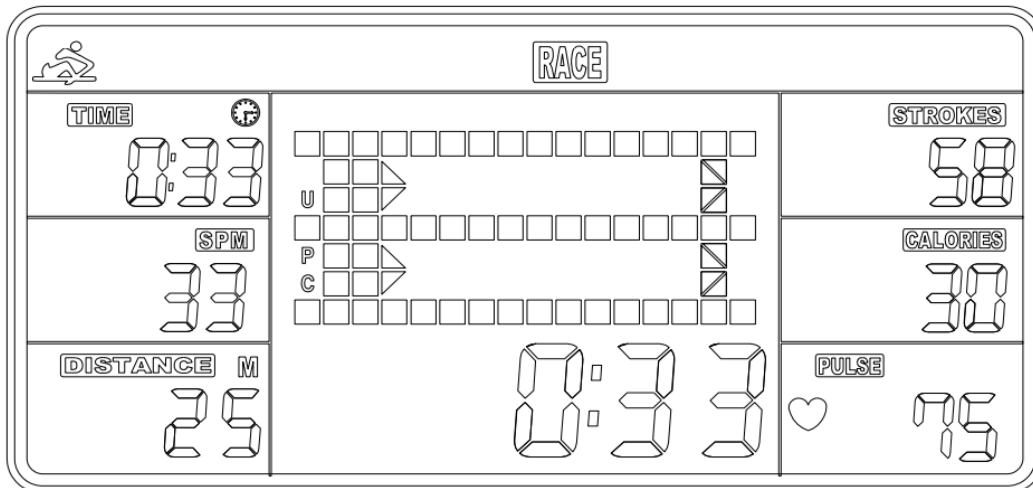
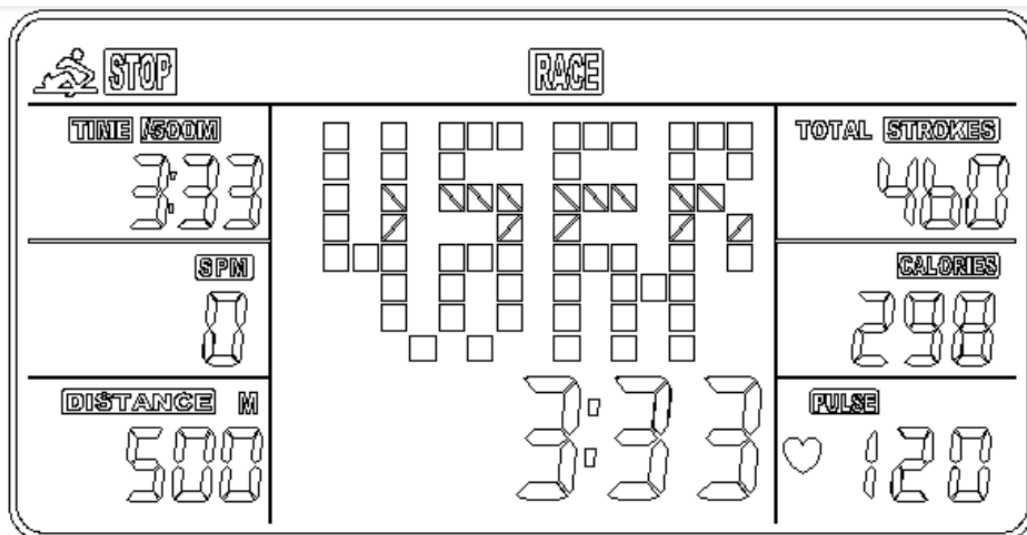

Fig 6
Fig 7
a. Press START button to start and STOP icon will disappear. USER and PC will display in the matrix (Fig.6). The meter will stop when either the user or meter has reached the race distance that was set. Then, the matrix displays “PC WIN” or “USER WIN” (Fig.7).